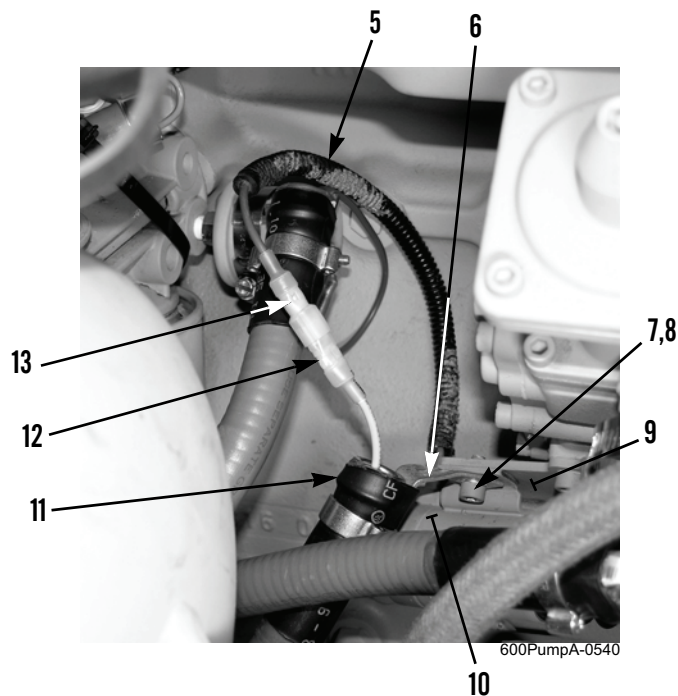

Figure 2. Solenoid and Conduit.
2. Pull solenoid wire (Figure 2, Item 5) out of conduit (Figure 2, Item 11) and disconnect solenoid connector (Figure 2, Item 13) from engine/control panel wiring harness connector (Figure 2, Item 12).
3. Remove two capscrews (Figure 2, Item 7), spring tension washers (Figure 2, Item 8), conduit L-bracket (Figure 2, Item 6), and solenoid (Figure 2, Item 10) with assembled linkage from fuel solenoid bracket (Figure 2, Item 9). Discard spring tension washers.
4. Install solenoid (Figure 2, Item 10) with assembled linkage and conduit L-bracket (Figure 2, Item 6) on fuel solenoid bracket (Figure 2, Item 9) with two new spring tension washers (Figure 2, Item 8) and capscrews (Figure 2, Item 7).
5. Connect solenoid connector (Figure 2, Item 13) to engine/control panel wiring harness connector (Figure 2, Item 12). Push wire (Figure 2, Item 5) back inside conduit (Figure 2, Item 11).